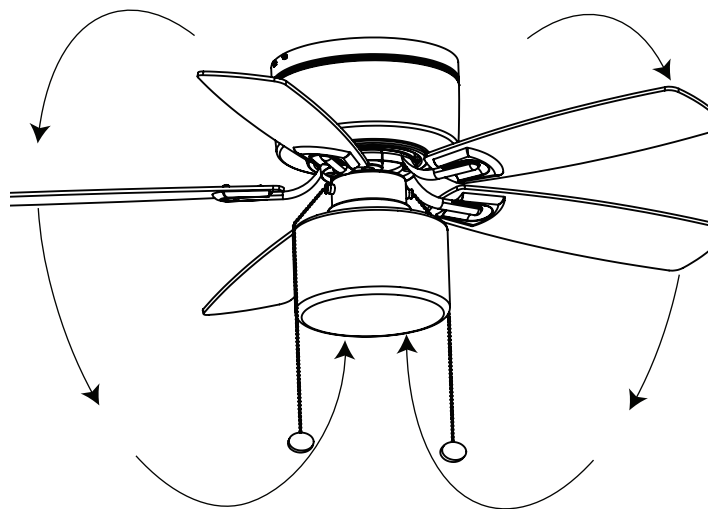

Figure 16
**Cool weather – (Reverse)** An upward airflow moves warm air off the ceiling area as shown in Figure 16. This allows you to set your heating unit on a lower setting without affecting your comfort.